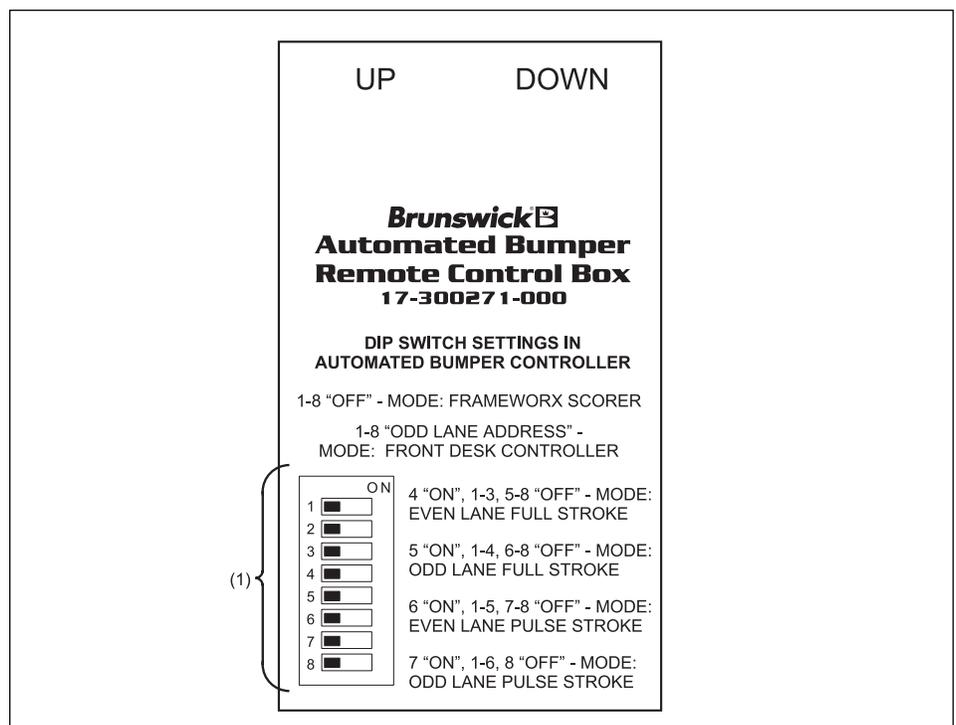

Figure 19. Automated Bumper Remote Control Box
2. Set DIP switches inside automated bumper controller as shown in Figure 19 to select the desired mode for the even numbered lane.
9. Repeat steps 1-8 for the odd numbered lane. Set the DIP switches inside the automated bumper controller as shown in *Figure 19* to select the desired mode for the odd number lane.